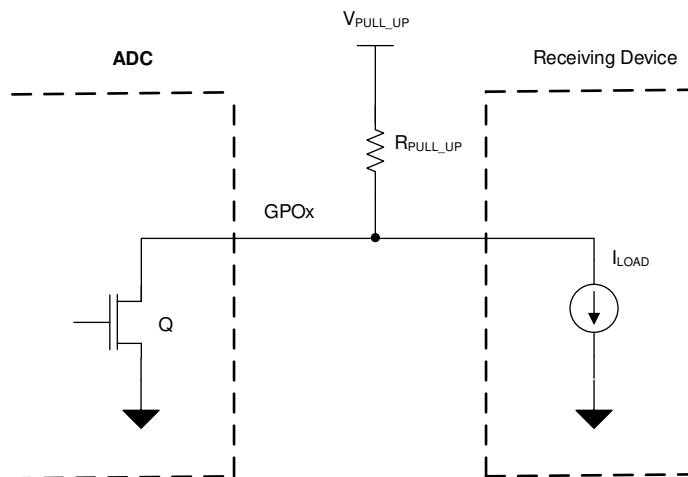

Figure 48. Digital Open-Drain Output
The channels of the TLA2528 can be configured as digital open-drain outputs supporting an output voltage up to 5.5 V. An open-drain output, as shown in Figure 48, consists of an internal FET (Q) connected to ground. The output is idle when not driven by the device, which means Q is off and the pull-up resistor, R_{PULL_UP} , connects the GPOx node to the desired output voltage. The output voltage can range anywhere up to 5.5 V, depending on the external voltage that the GPIOx is pulled up to. When the device is driving the output, Q turns on, thus connecting the pull-up resistor to ground and bringing the node voltage at GPOx low.